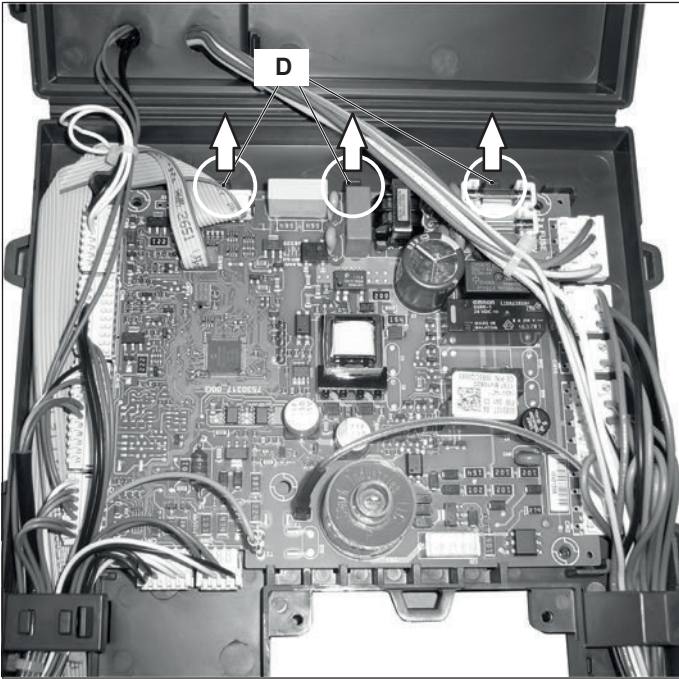

Figure 6.11
- 4 Delicately flex the hooks "D" in the directions indicated (Figure 6.11) in order to release the circuit from the box.